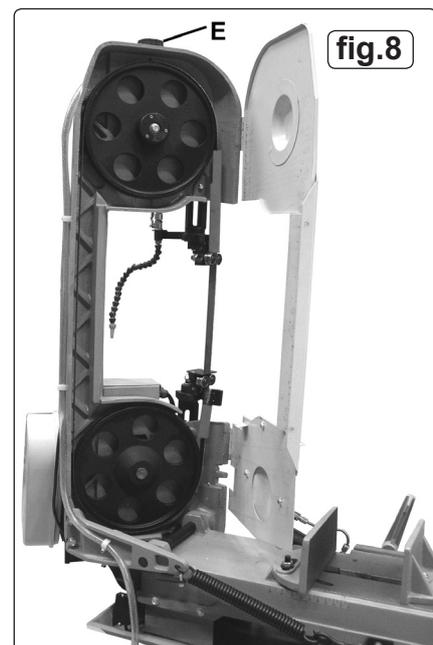

fig.8
- 4.8.5. Undo and remove the two screws (fig.7A) that hold the main blade cover closed and fully open the cover as shown in fig.8.